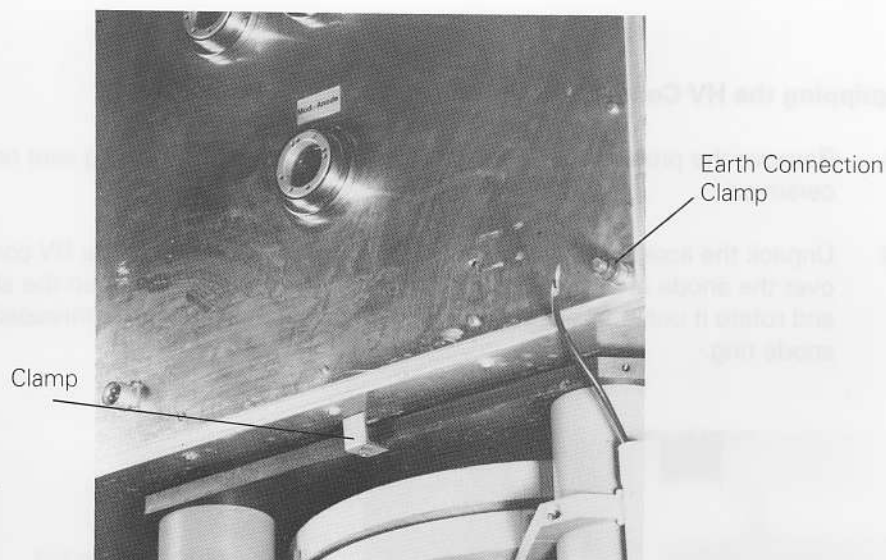
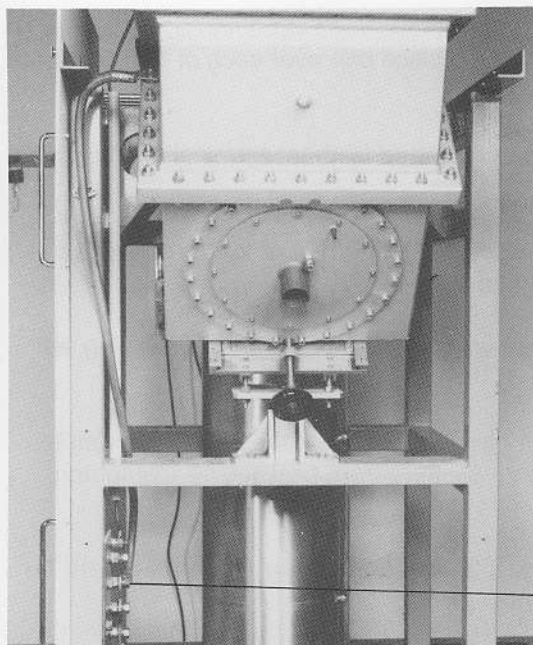
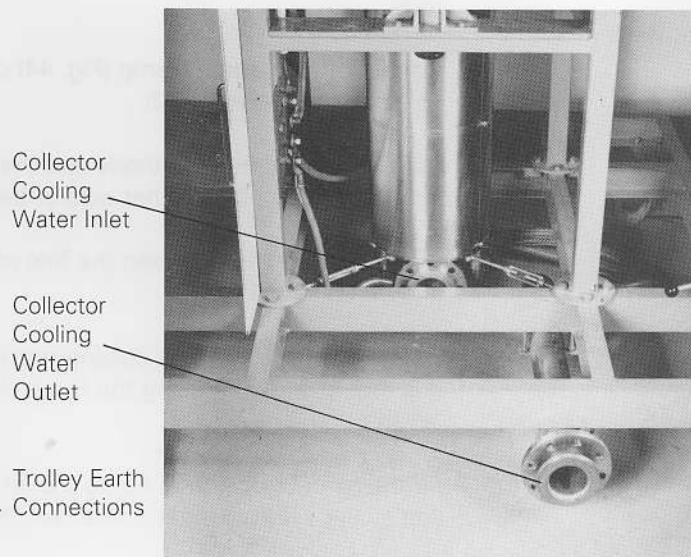

Fig. 41. Clamping the HV Connection Unit (TE 1263) to the Focusing Coil Unit (TE 1266)
Fig. 46. Final Assembly (1)
Fig. 47. Final Assembly (2)
- HV connection unit (see Fig. 41).
The clamps are fitted, one at the left and one at the right (Fig. 41).
- (r) Fit an earth lead between HV connection unit (see Fig. 41) and trolley earthing point (see Fig. 46).
- (a) Complete any earthing connections to the trolley (Fig. 46) including customer-connected earths to 45° waveguide elbow (Fig. 46) and collector cooling water inlet flange (Fig. 47).
- (g) Water inlet and outlet supplies to flanges of water cooling jacket (TE 1170) and water outlet collecting tube (TE 1168) respectively (see Fig. 47).